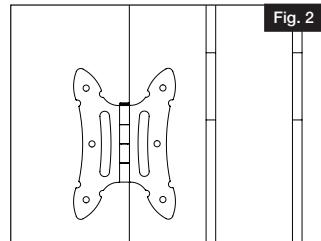

Fig. 2
- Align the hinge with the crossing support rail on the back of the gate so the screws will engage the rail (Fig. 2).